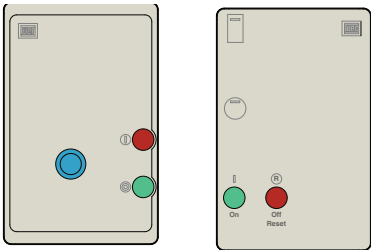

FIG. 22
Assemble the Magnetic Starter (B) [FIG. 22] by referring to the included instruction sheet: